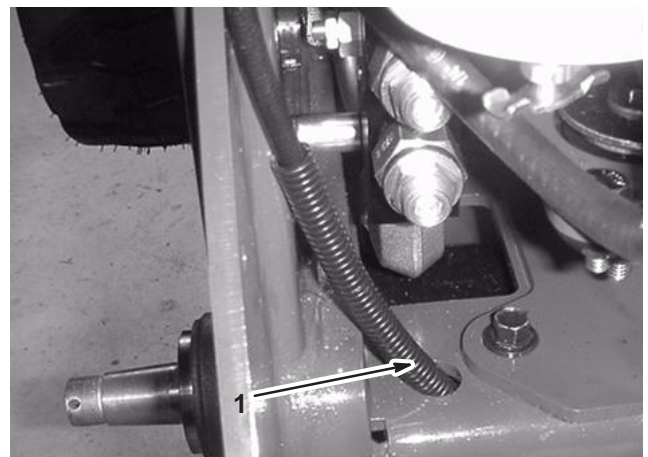

Figure 8
1. Slide the convoluted tube over the brake cable (Fig. 8).
2. From under the machine, route the end of the cable through the frame in the lower left corner of the frame (Fig. 8). Ensure that the convoluted tube protrudes at least 4 to 6 in. (10 to 15 cm) through the hole.